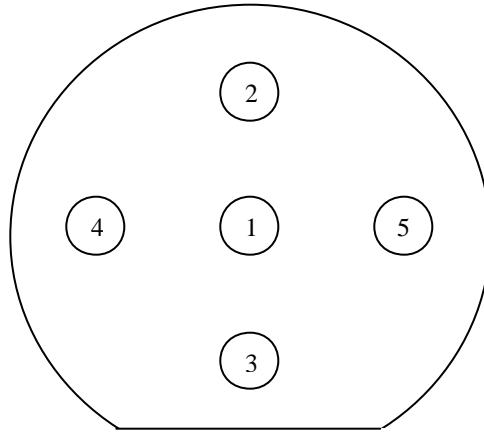

Figure 1. Five points inspection position on a wafer.
- 4) Inspection method: Five points inspection as shown in Figure 1: